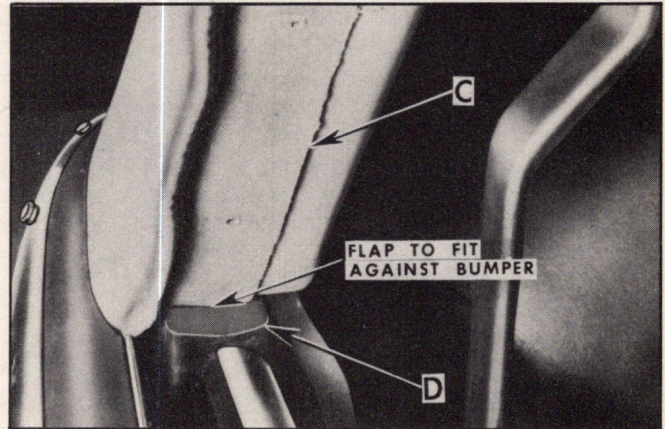

Fig. 2 Top to Hinge Bumper Fit
- b. The lower end of the rear quarter top material flap "C" should fit against the top of the hinge bumper "D". See Fig. 2.
If the top material has pulled away in either of the locations indicated in Fig. 2, use the following repairs to improve weathersealing in this area: